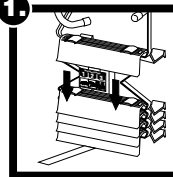

FIG. 3
4. Pull release strap to deploy ladder. (see Fig. 3) **(To be done only in an actual emergency).**